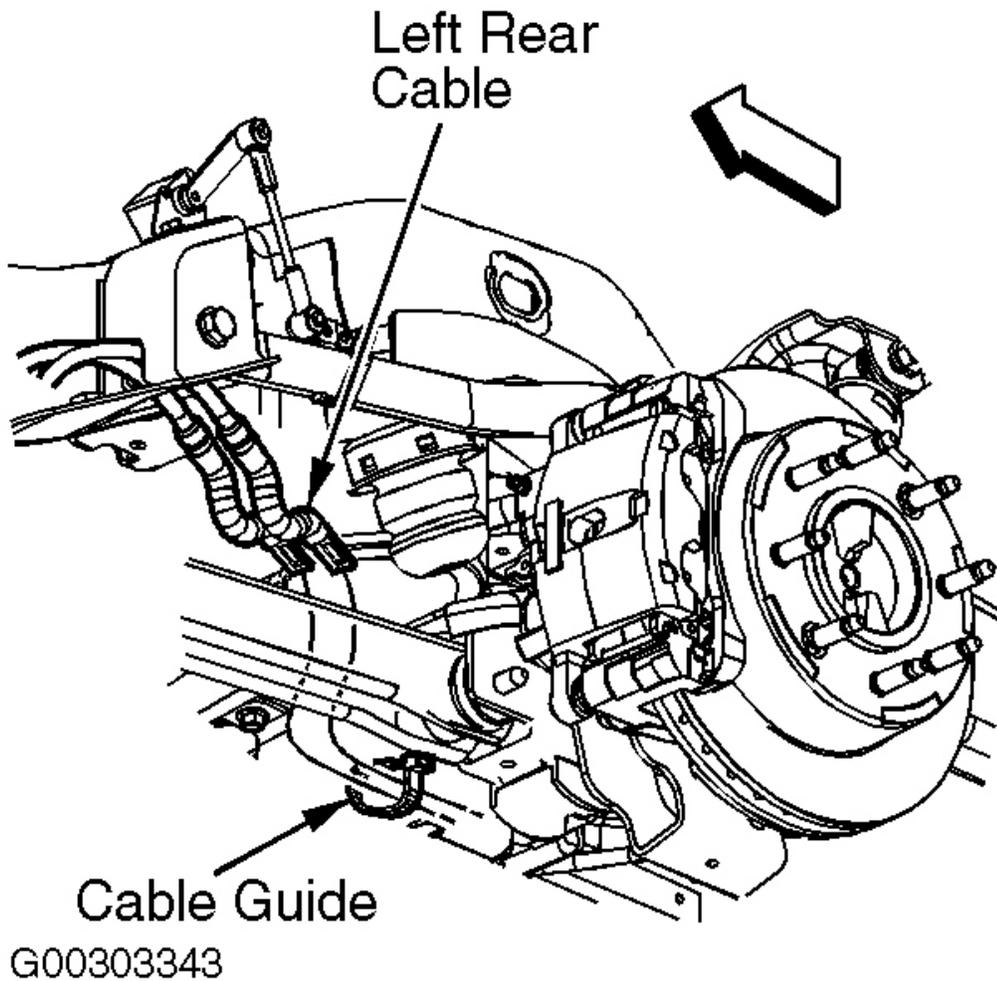

Fig. 45: Removing Cable From Cable Guide
4. Remove the cable from the lever. Remove the left rear cable from the cable guide. See **Fig. 45** . Remove the cable from the vehicle.
4. Remove the cable from the lever. Remove the right rear cable from the cable guide. See **Fig. 45** . Remove the cable from the vehicle.